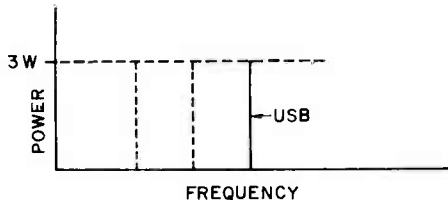

FIG. 5. SSB signal with 3 watts of sideband power.
- (1) All the power output is useful power.
- (2) Channel bandwidth is cut in half.
- (3) Receiver requirements simpler than DSB.
With regard to (1) above, our original 3-watt rig with 0.75 watts in each sideband could be a 3-watt single sideband transmitter as shown in Fig. 5. The entire efforts of the transmitter go into one useful sideband rather than into two sidebands and a carrier.